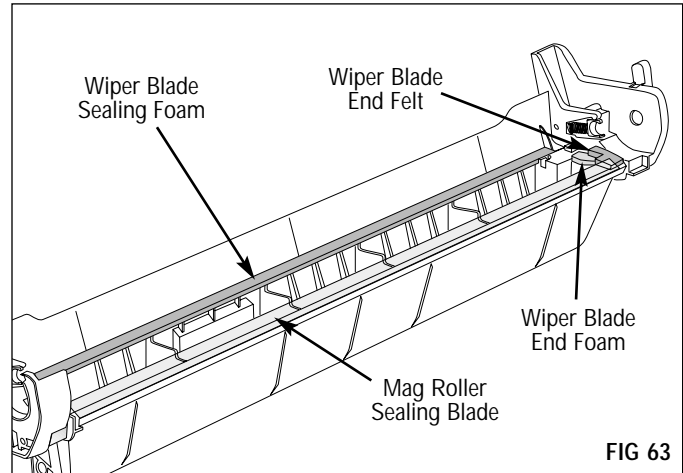

FIG 63
4. Inspect the wiper blade sealing foam, recovery blade, wiper blade end foams and wiper blade end felts (FIG 63).